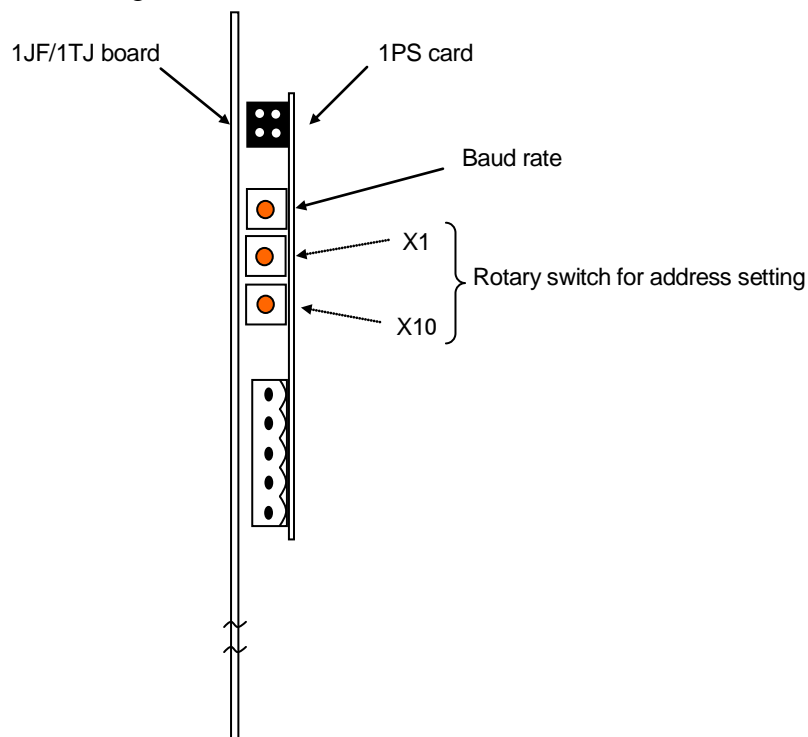

Fig. E5 Interface board (Front view)
2. Before configuration, set the robot controller's address on the network via the two rotary switches on 1PS card. Settable range for the address is 1 to 64. The station number is used as the address on the network, so be careful the station numbers are not used more than once in the same network. The figure below shows the front view of the interface board with 1PS card set on 1JF/1TJ board (Fig. E5).
The example in Fig. E5 shows Version1.0 with 4 stations occupied.